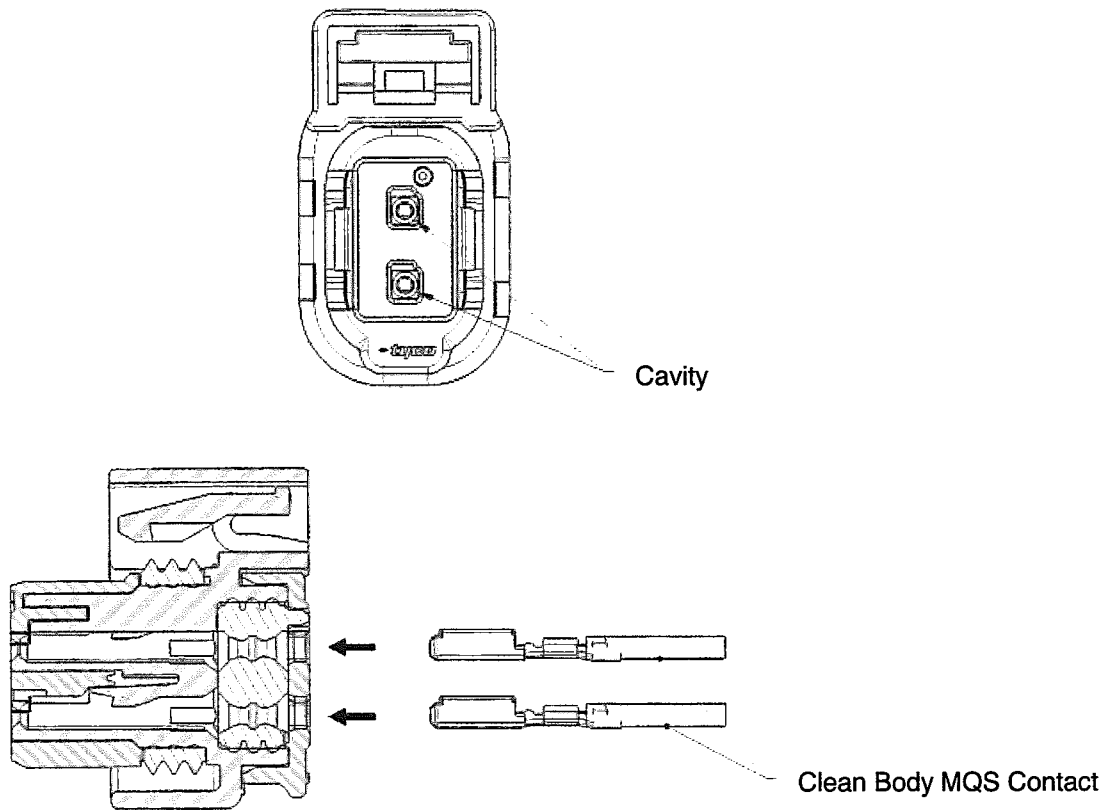

Fig.8
- (2) Insert terminals into the housing with the direction as shown in Fig.8. The insertion is finished when the lance is locked and the terminal cannot be more inserted.